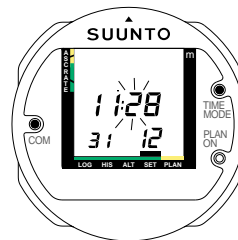
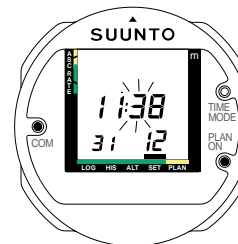

Fig.4.14 TIME SETTING
Fig.4.15 TIME SETTING
3. To scroll through the minute, month and date, keep the TIME/MODE and COM contacts connected. Release your fingers when the display you wish to change is blinking (Fig. 4.14). Repeat step 2 to change this value (Fig. 4.15).